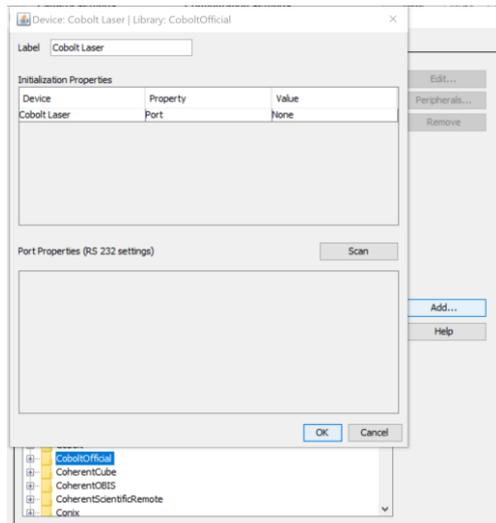

Figure 1: Select CoboltOfficial
5. Select the "CoboltOfficial" device driver from the library. (Figure 1)